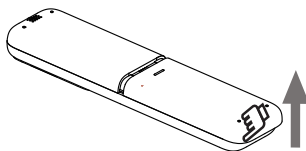

Figure 2.3
- 2) Lift up from the lower left end of the battery cover to open it (see Figure 2.3);